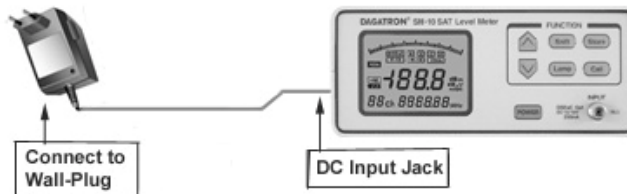

Fig. 4-1 Charging by AC adaptor
4.2.1 Charging by AC adaptor (Figure 4-1)